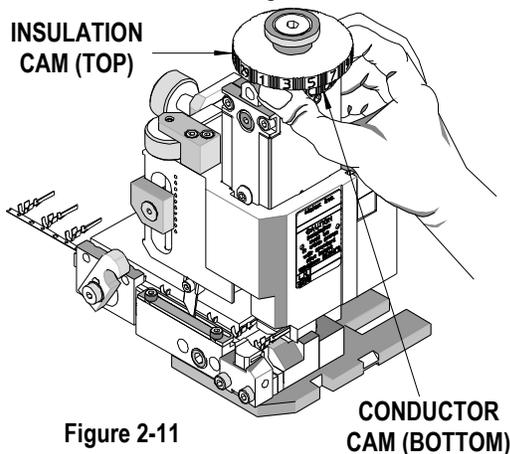

Figure 2-11
4. The desired crimp height can be achieved by rotating the conductor-adjusting cam. See Figure 2-11. Each increment represents approximately 0.015mm (.0006") for a total adjustment of 1.80mm (.071"). The "A" setting is the loosest crimp height and the "N" setting is the tightest. If you find that the crimp height is not acceptable, you can rotate the adjusting cam until the desired crimp height is obtained. See Section 2.1, Shut Height. No shimming of the applicator is required.